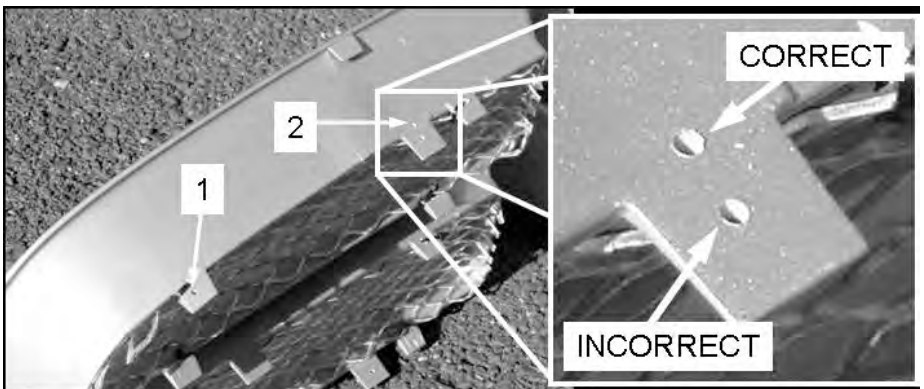

Figure 14. Location of grille frame mounting holes.
5.1) Modify the grille frame for reinstallation. The grille frame must be modified since the stock grille, now removed, held the grille to the bumper. Drill 1/8" holes in the grille frame tabs (two for each of the four grille openings for a total of eight) as shown in **Fig. 14**. Note the proper hole placement on the larger tabs.